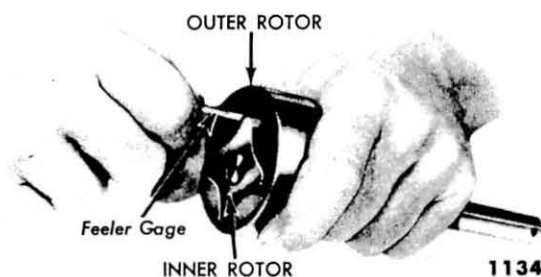

Fig. 16—Measuring Clearance Between Oil Pump Rotors
(4) **INSPECTION.** Visually check all parts for breakage. Measure the clearance between the rotors as shown in fig. 16. Clearance should be 0.006-0.010 inch between the rotors.